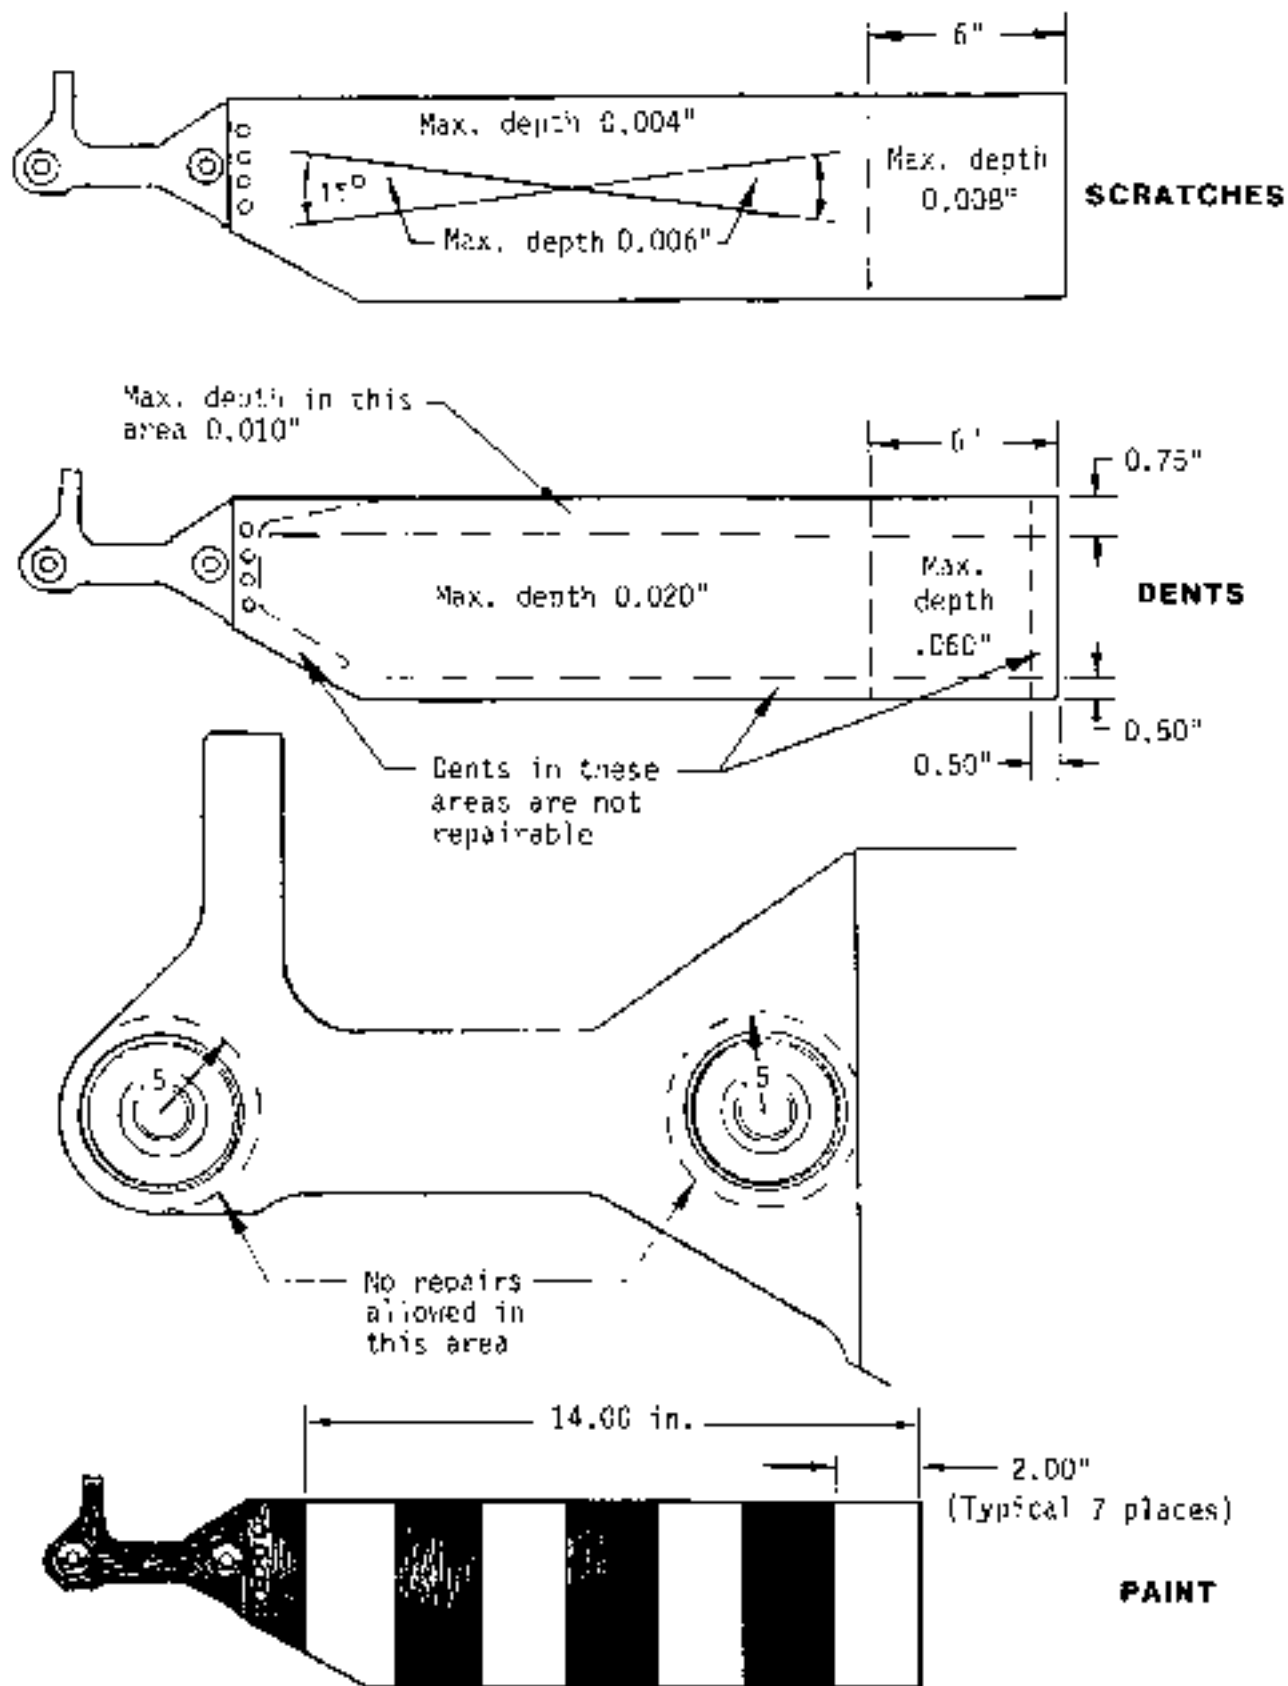

FIGURE 9-14 INSPECTION/REPAIR OF TAJI ROTOR BLADES
- b) Dents on Skins (See Figure 9-14): Smooth, round-bottomed dents which have a .06 inch minimum radius and occur from the leading edge to a point .75 inch aft of the leading edge are limited to .010 inch. Aft of .75 inch from the leading edge dents are acceptable within the following limits:
- g) Painting (See Figure 9-14):